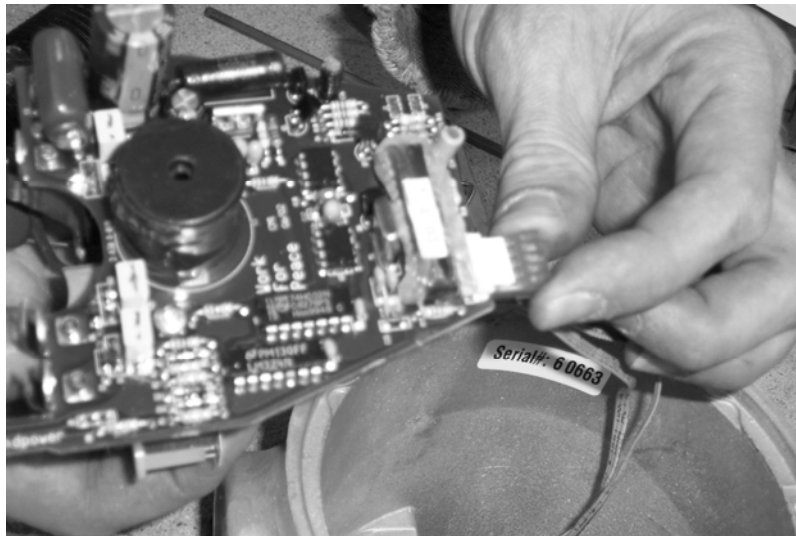

Fig. 4
12. Carefully remove the circuit from the body as it is still connected by ribbon cable to the potentiometer and LED light. See Fig. 4